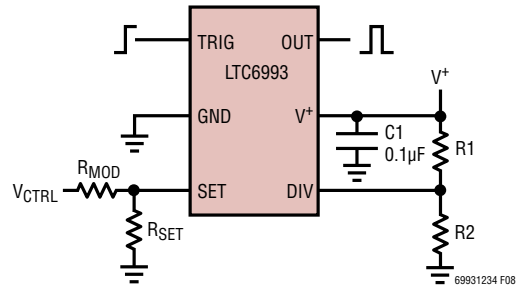
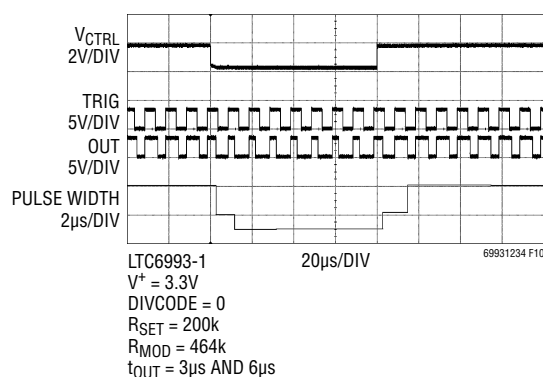

Figure 8. Voltage-Controlled Pulse Width
Figure 10. Typical Settling Time
With one additional resistor, the LTC6993 output pulse width can be manipulated by an external voltage. As shown in Figure 8, voltage  $V_{CTRL}$  sources/sinks a current through  $R_{MOD}$  to vary the  $I_{SET}$  current, which in turn modulates the pulse width as described in Equation (3).
Following a  $2\times$  or  $0.5\times$  step change in  $I_{SET}$ , the output pulse width takes approximately six master clock cycles ( $6 \cdot t_{MASTER}$ ) to settle to within 1% of the final value. An example is shown in Figure 10, using the circuit in Figure 8.